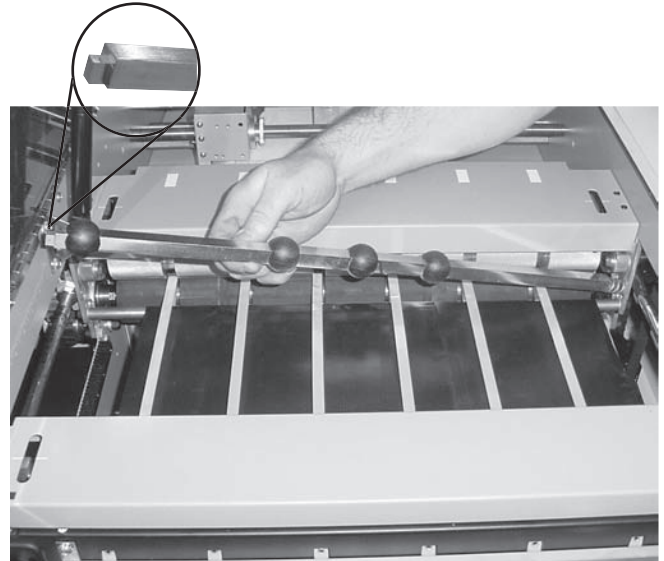

Fig. 26
13. The tear bar is adjustable to accommodate characteristics of various forms. To adjust height, bar must be pushed to compress spring and lift out. Rotate 180 degrees (turned over) and replace making sure that square end of bar locks into brackets. (Fig. 26, shown in HIGH position)
6. Set up tear bar as before. (Fig. 26)